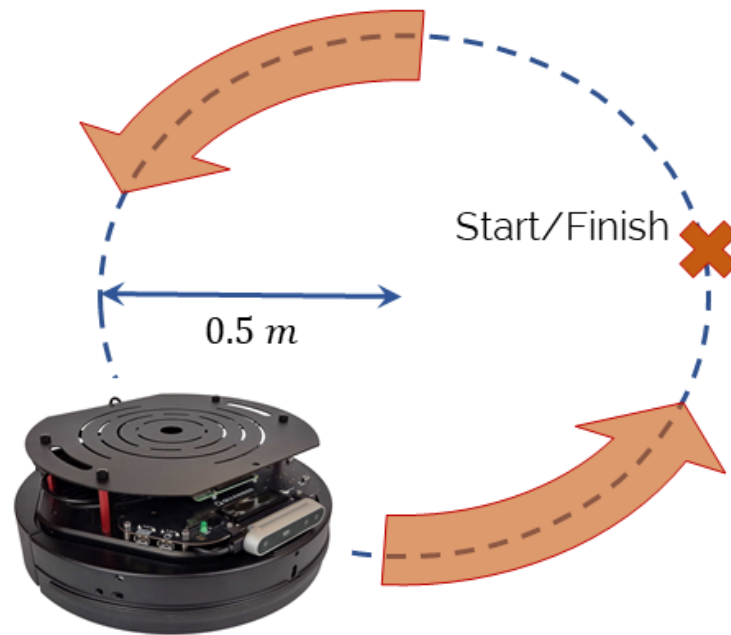

Figure 2.2: Path following controller desired path
3. Determine the theoretical right wheel and left wheel commands, and time required, for the QBot 3 to travel in a straight line 5 meters in length. Enter your values into the appropriate fields in the controller model, indicated in blue and shown in Figure 2.2.